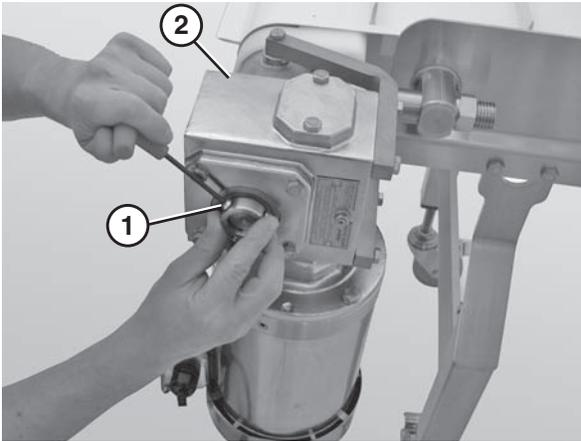

Figure 58
- Use a 5 mm hex wrench to loosen the outside button head screws (**Figure 58, item 1**) and the inside button head screws (**Figure 58, item 2**) that connect the gearmotor to the drive spindle.